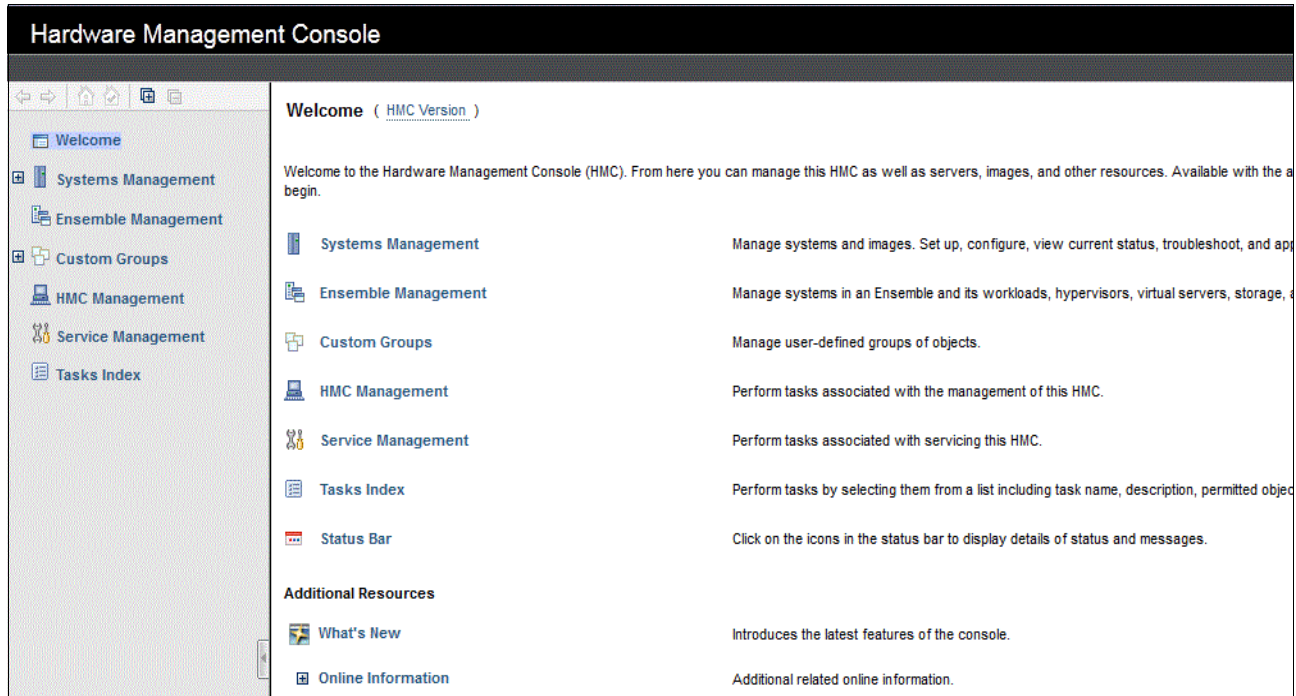

Figure 3-17 HMC and SE: What's New task
The z13 CPC includes the new HMC application Version 2.13.0. Use the “What’s New Wizard” to explore new features available for each release. See Figure 3-17 on page 64.
- ▶ A simple wizard (named What's New) describes new features available on the HMC (Figure 3-17).